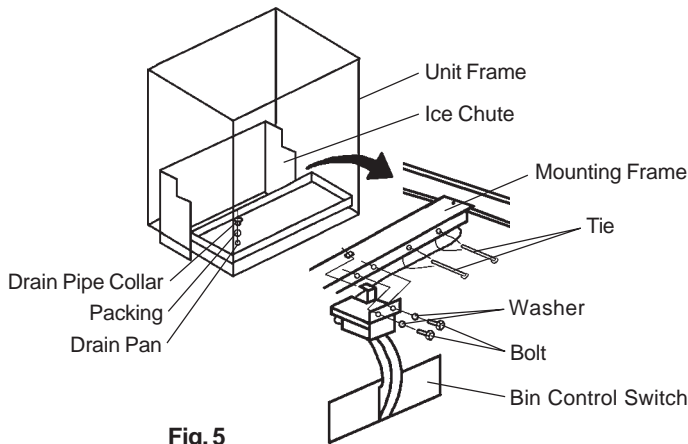

Fig. 5
- 6) Remove the Drain Pipe Collar and Drain Pan. Secure the Bin Control Switch to the Mounting Frame using the two bolts and flat washers provided. Fix the Bin Control Switch wiring with the two nylon ties. Place the Ice Chute on the Unit Frame, and refit the Drain Pan in its correct position. See Fig. 5.